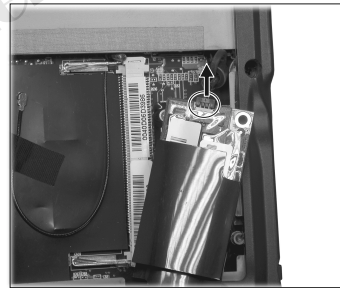

Figure 2-14 Disconnect the cord
4. Lift up the modem card and disconnect the cord. (Figure 2-14)